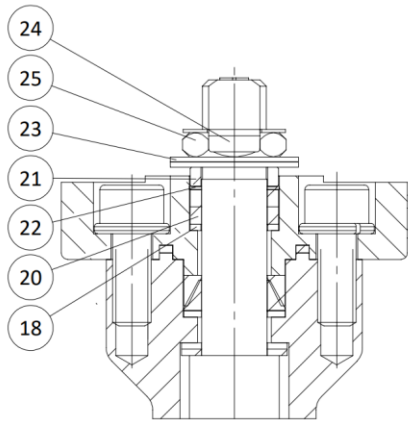

Figure 4 – Fire safe packing assembly.
- Check if the stem (6) rotates freely with a uniform torque to check if any sealing has malfunctions;
- Place the fire safe packing (20), the washer (18), the stem seal (22) and the bearing (21) into the iso flange (4);
- Place the disc springs (23) and the stem nut (24) and tighten according to Table 5 –Fire safe packing system Torque [Nm]. Place the locking clip (25) into stem nut– Figure 4 – Fire safe packing assembly;